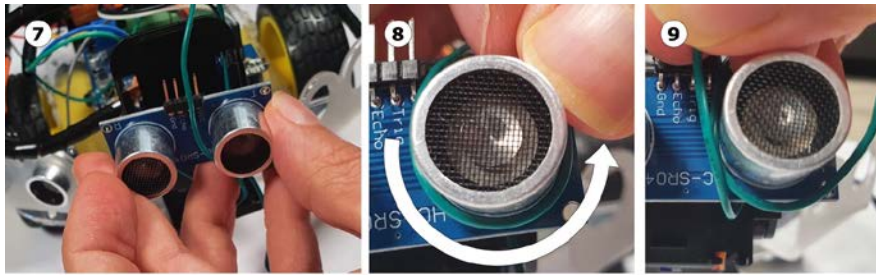

Figure 10.19 – Wrapping wire underneath the sensor
8. Now bend it under the big round element (the ultrasonic transducer) indicated by the white arrow in *Figure 10.19*.